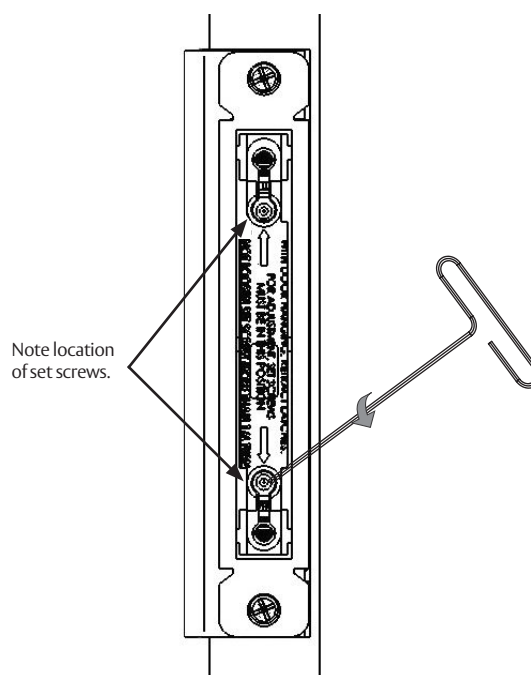

Figure 18
4. Using supplied 1/8" Allen wrench, loosen set screw 1/4 turn maximum. This allows hex rods to rotate during latch bolt adjustment. (Figure 18)